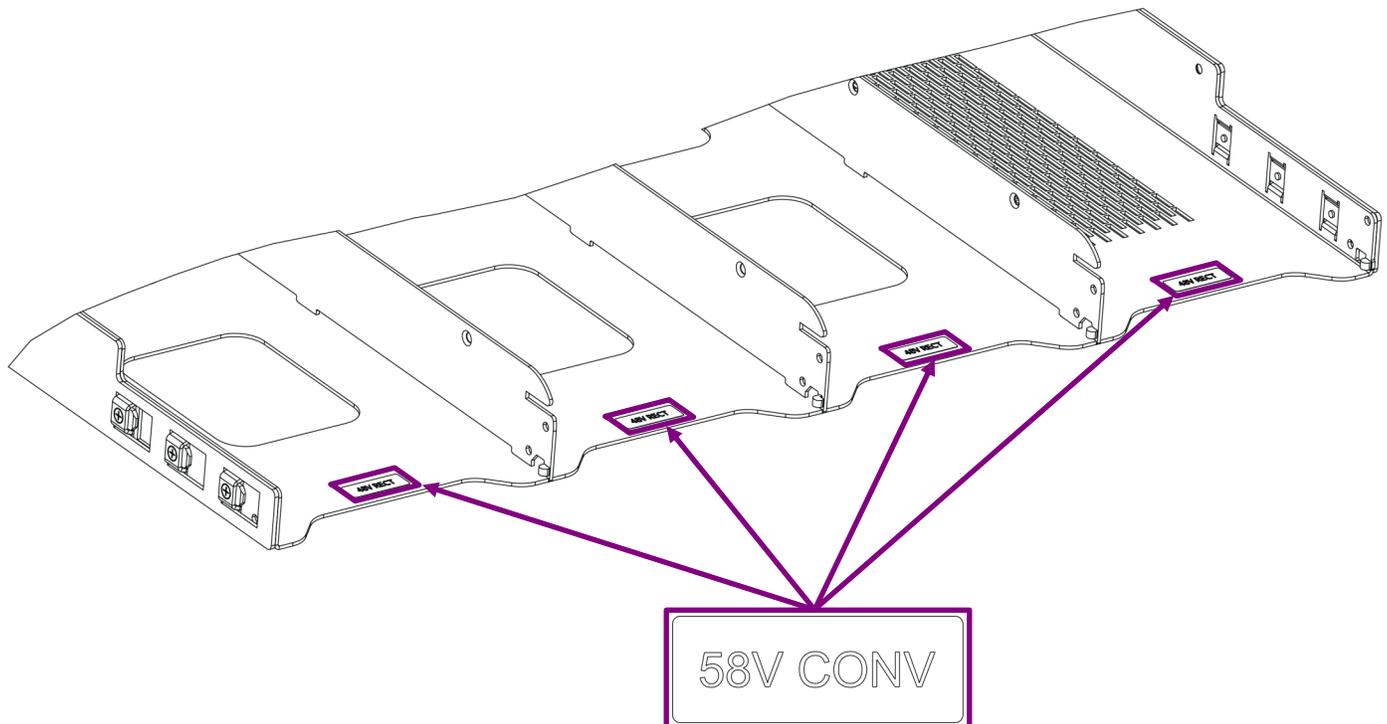

Figure 6. Applying label D
2. Paste Label-D (8600481377P) on front of the converter shelf (4 label per shelf) in each slot as shown in figure 6.